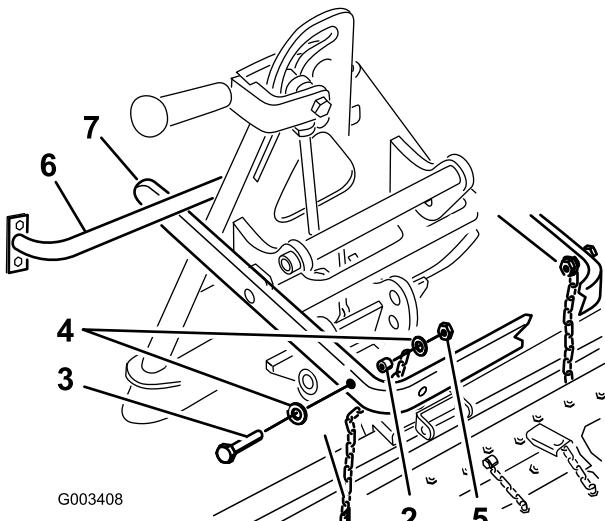

Figure 6
Important: The long arm of the lift arm assembly must be under the traction unit rear frame assembly (Figure 6).
Always lift and move the attachment using the handle on the back of the attachment adapter (Figure 6).
5. Secure the top link of each chain to the inside of the lift arm using a bolt (3/8 x 2-1/2 inches), 2 washers (3/8 x 7/8 inch), a spacer, and a locknut (3/8 inch) (Figure 6).